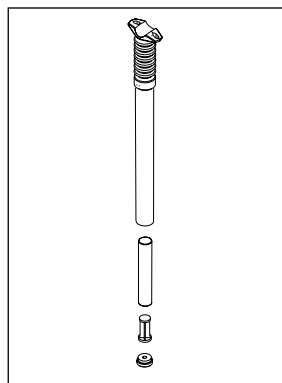

Fig. 2
1. Unscrew the preload adjuster plug using a 6mm hex wrench (fig. 2).
2. Remove the bumper and any spacers from the outer tube. Note the orientation of all parts (fig. 2).